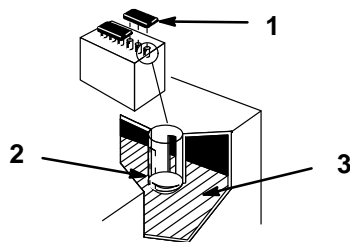

Figure 43
1. Open covers to see into the cells. The electrolyte must be up to the lower part of the tube (Fig. 43). Do not allow the electrolyte to get below the plates. (Fig. 43).
2. Lift off the filler caps (Fig. 43).
3. Slowly pour distilled water into each battery cell until the level is up to the lower part of the tube (Fig. 43).